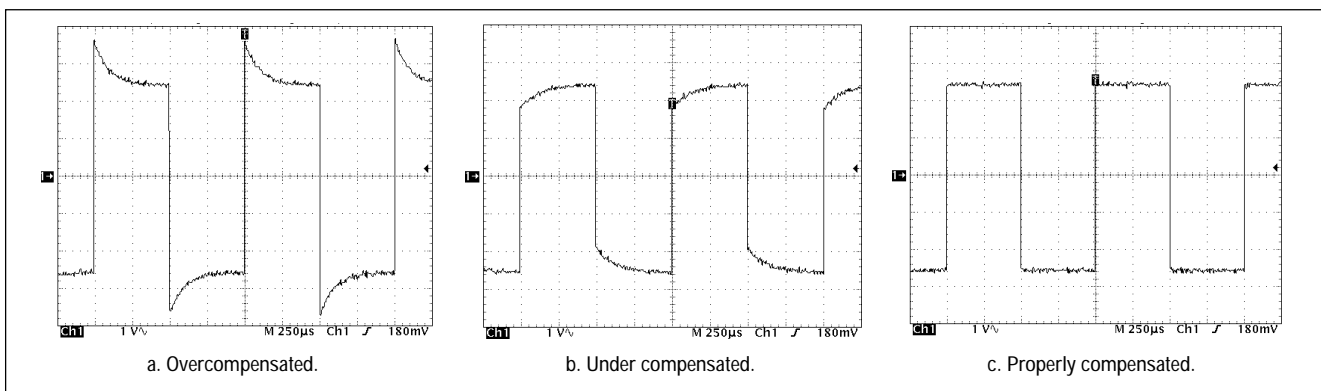

Figure 1-11. Examples of probe compensation effects on a square wave.
3. Use the adjustment tool provided with the probe or other non-magnetic adjustment tool to adjust the compensation network to obtain a calibration waveform display that has flat tops with no overshoot or rounding (see Figure 1-11).